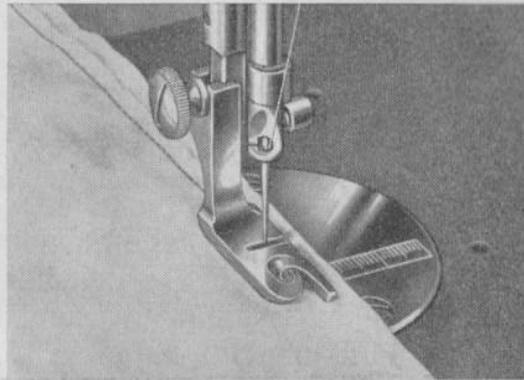

FIG. 41
1. Lay two pieces of cloth one on top of the other with their *right* sides facing each other. The right edge of the bottom piece must extend about  $\frac{1}{8}$ " beyond the right edge of the top piece. See fig. 41.
2. Sew both pieces of cloth together, using the hemmer foot like a regular presser foot. Use the right edge of long toe of hemmer foot to guide the bottom piece of material, while the left edge of the same toe serves as a guide for the top piece of material. Fig. 41 shows this detail.